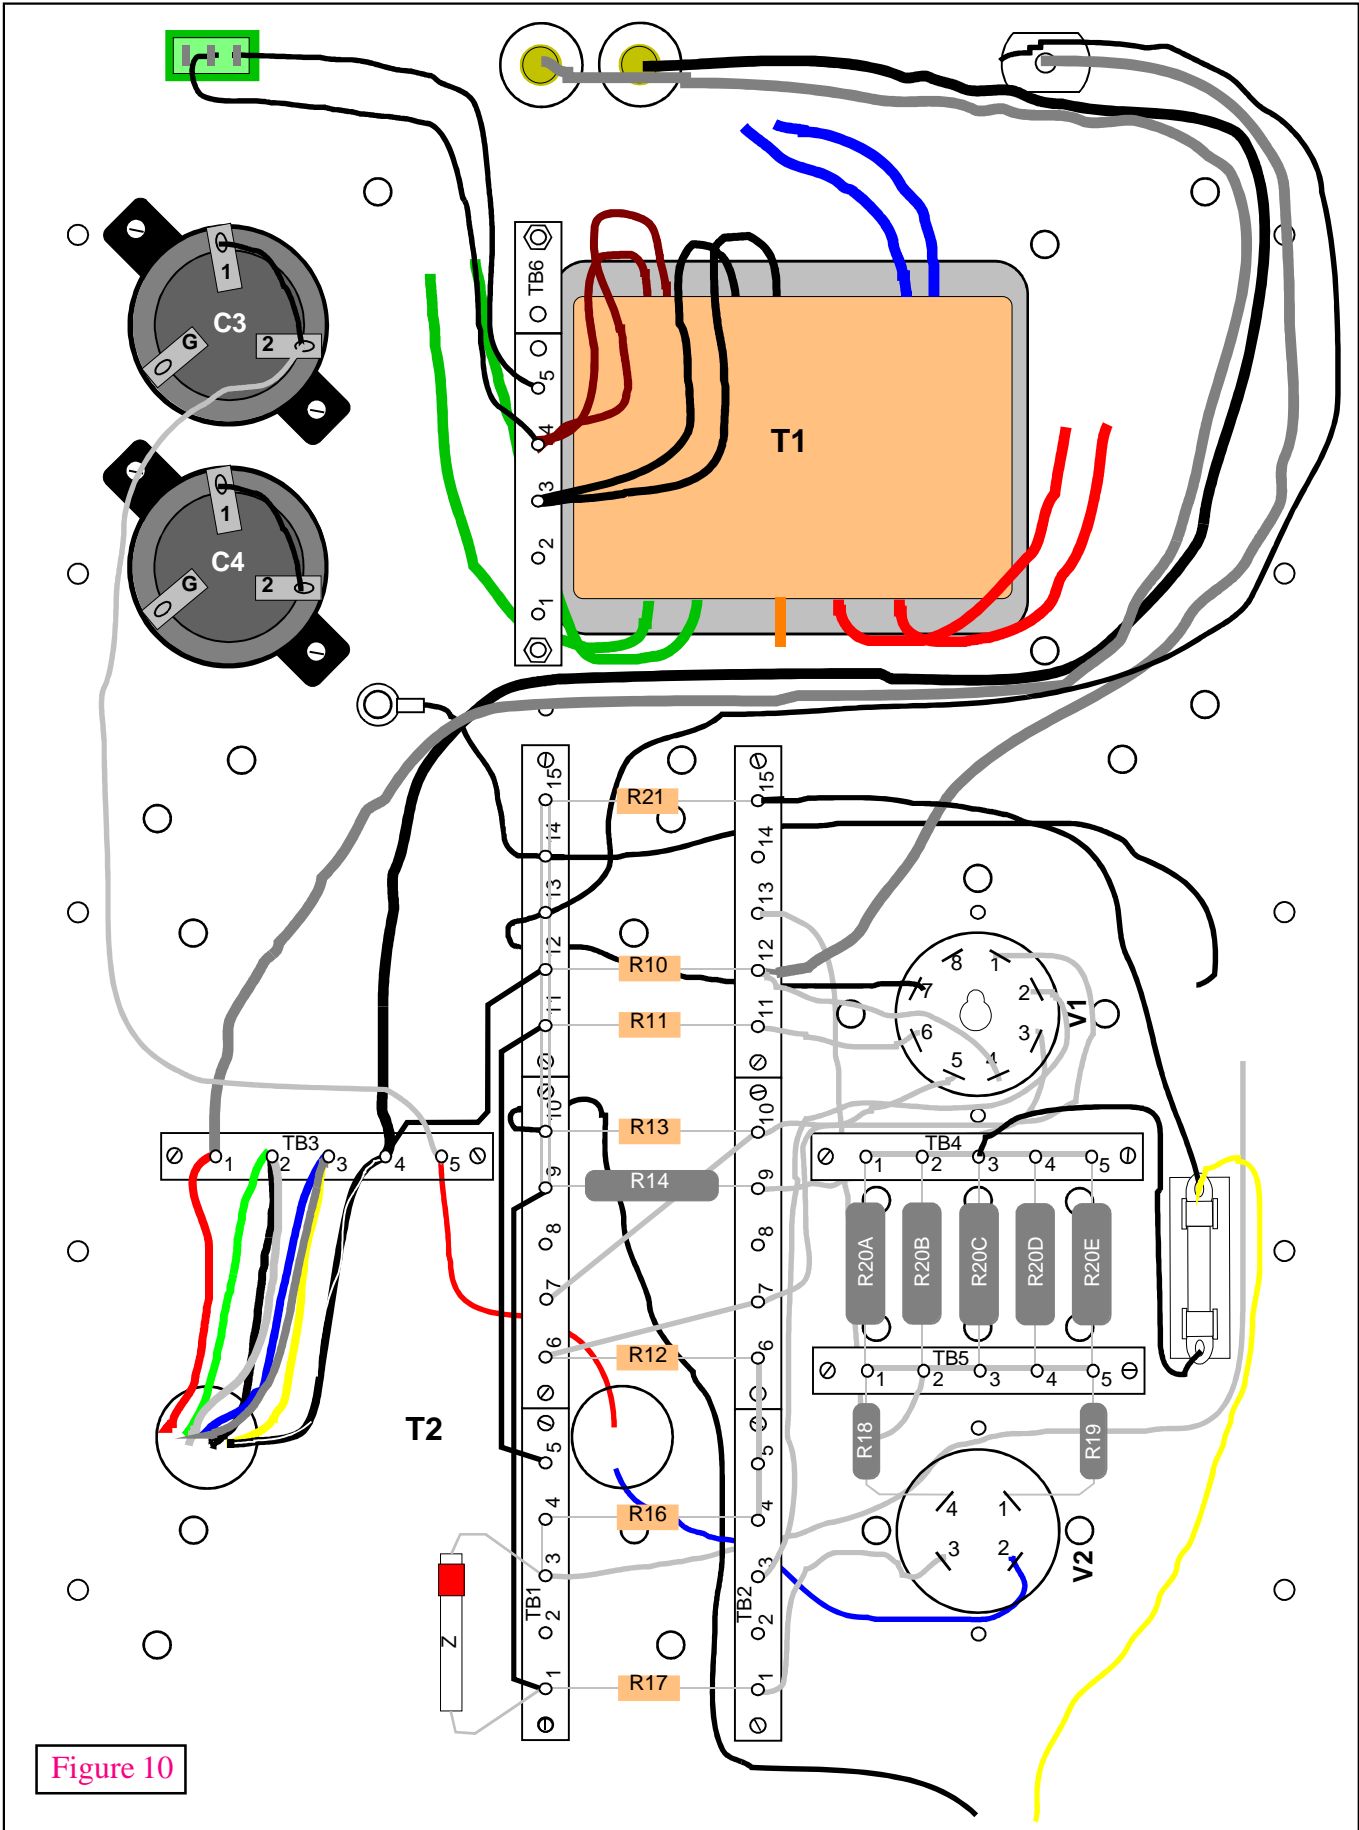

Figure 10
9) Refer to figure 10 for the following steps.
Connect the T1 transformer **primary** leads based upon your ac voltage requirements. Refer to figure 10.